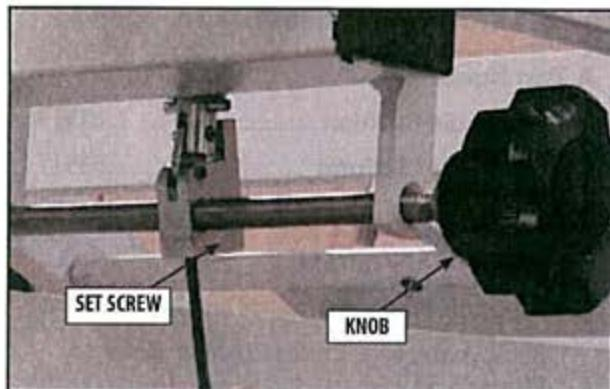

FIGURE 5.29
Refer to Figure 5.29
3. On the under side of the Mechanical Lock, remove the set screw that secures the Mechanical Lock to the rod. **Refer to Figure 5.29.**